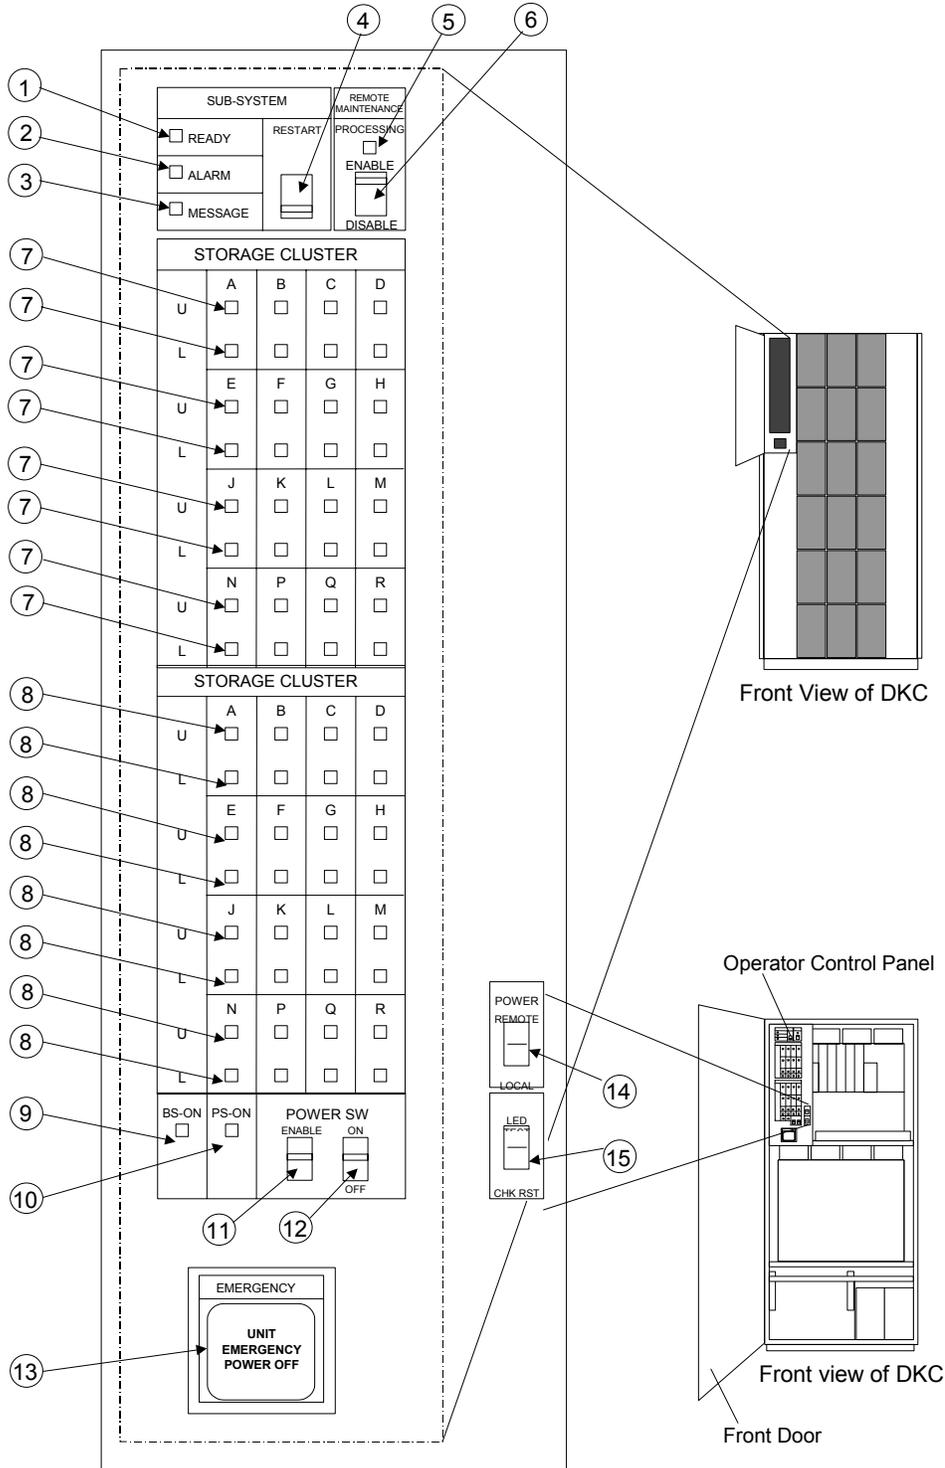

Figure 4.26 9980V Control Panel
Figure 4.26 shows the 9980V operator control panel. The 9970V control panel is the same except that the interfaces are A-M (not A-R). Table 4.8 describes the items on the operator control panel. To open the control panel cover, push and release on the point marked PUSH.
2. Pull the emergency power-off switch (item 13 in Figure 4.26) up and then out towards you as illustrated on the switch.